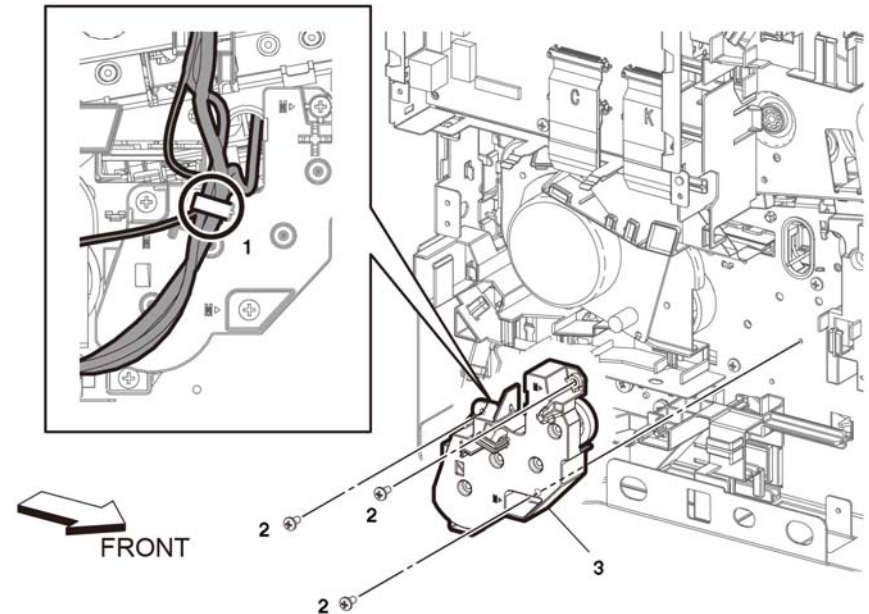

Figure 1 Main 3 drive assembly removal
10. Remove the main 3 drive assembly, Figure 1:
- a. Release the harnesses from the harness guide (1).
- b. Remove three screws (2), then remove the drive 2 motor assembly (3).